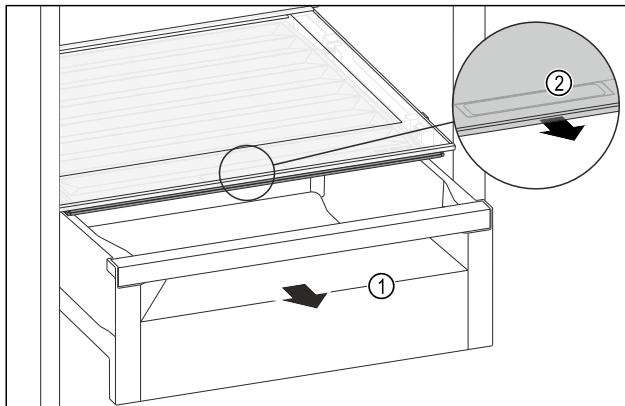

Fig. 140
- Pull out the drawer Fig. 140 (1).
- Grasp the recessed grip Fig. 140 (2) on the compartment lid and pull the compartment lid forwards at the same time.